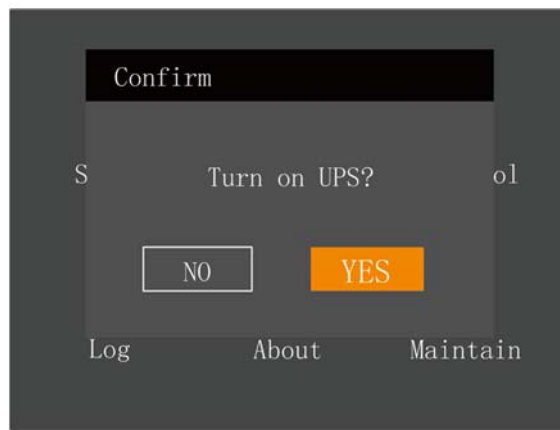

Figure 5-6 Switching the UPS on
2. Press the power button for two seconds so that the dialogue box shown in Figure 5-6 appears on the LCD screen.